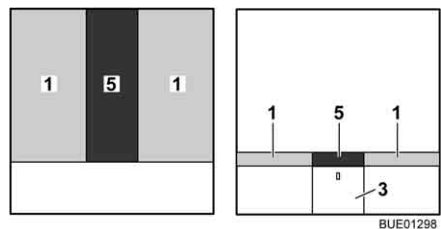

Fig. 119 After conversion
- Place the additional cushion (Fig. 119,5) between the mattresses (Fig. 119,1).